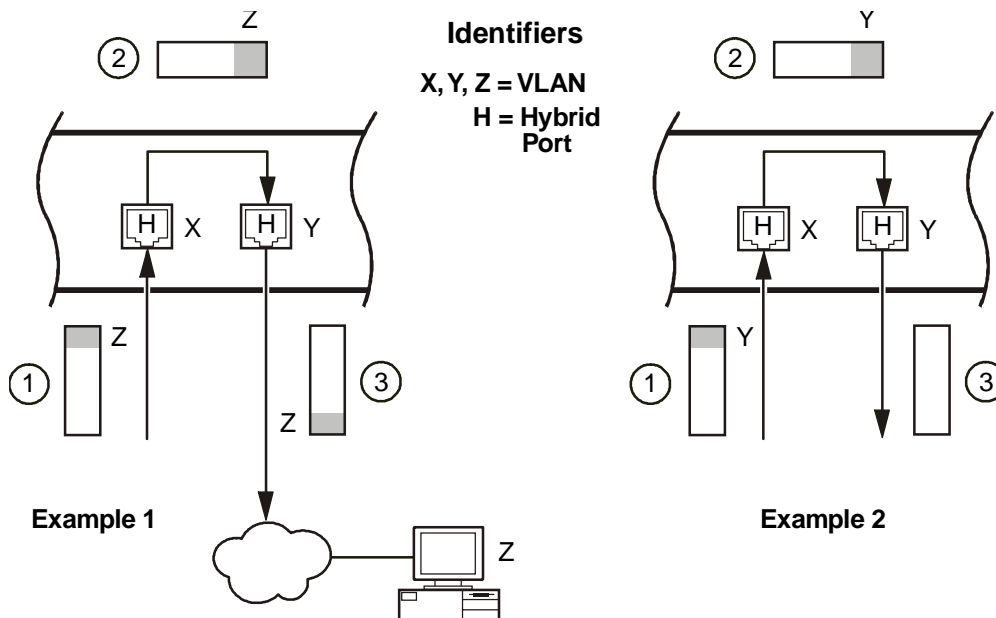

Figure D-3A. VLAN Hybrid Ports (Examples 1 and 2)
In Example 1 in Figure D-3A, two ports are configured with two different PVIDs, X and Y. A frame arrives (1) with a tag for VLAN Z. If the destination MAC address of that frame has already been learned on the destination port as a tagged station with the same VLAN ID of Z, the frame is sent out that port (3) with the VLAN Z tag still appended to it. If the address has not been learned with the VLAN ID of Z on the destination port, the frame is dropped.
In Example 2 in Figure D-3A, a similar scenario to Example 1 occurs, except that the incoming frame (1) is tagged with a VLAN Y tag. The frame is being sent (2) to a port that belongs to VLAN Y. In this case, the decision to append a VLAN Y tag or not to the outgoing frame depends on whether the destination MAC address has been learned as a tagged or as an untagged station. In this example, it was learned as an untagged station, so the frame is sent out without a tag (3).